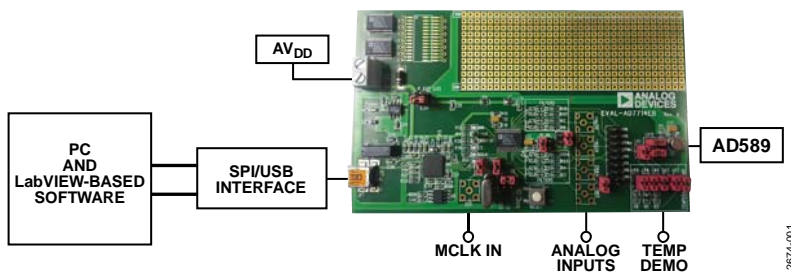

Figure 1.
2. After the **AD7714-3** evaluation board software has been installed, connect the board to the PC via J1 on the **AD7714-3** evaluation board and via the USB port on the PC using the supplied USB connector cable (see Figure 1). The PC automatically finds the new USB device and identifies it as the **AD779x Evaluation Board** (see Figure 2).